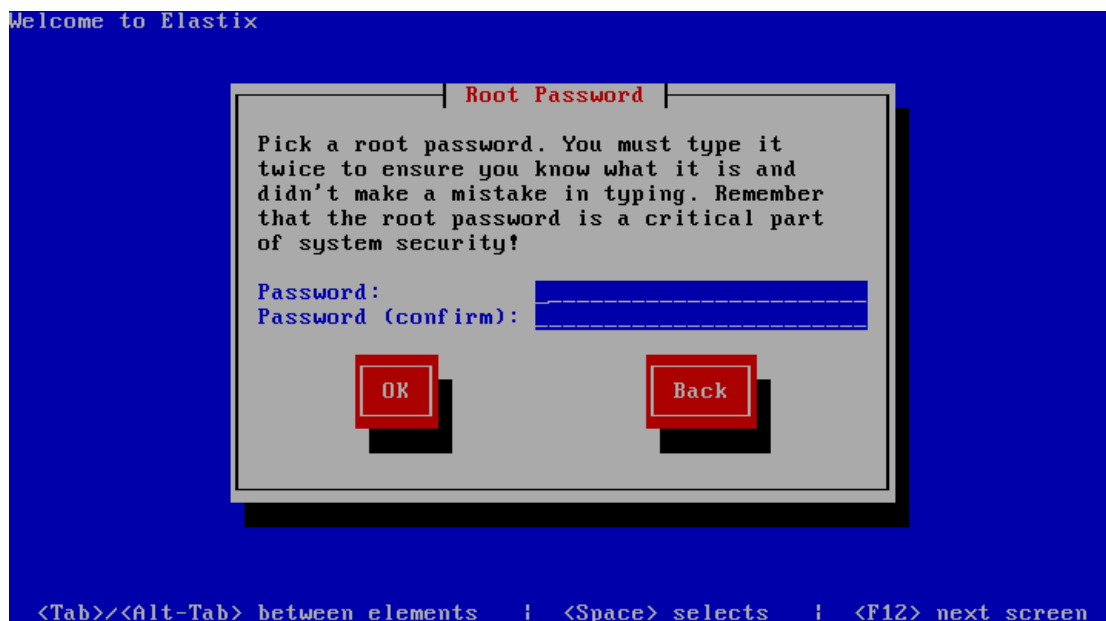

Figure 12
12. Next, enter the system administrator password (Figure 12).